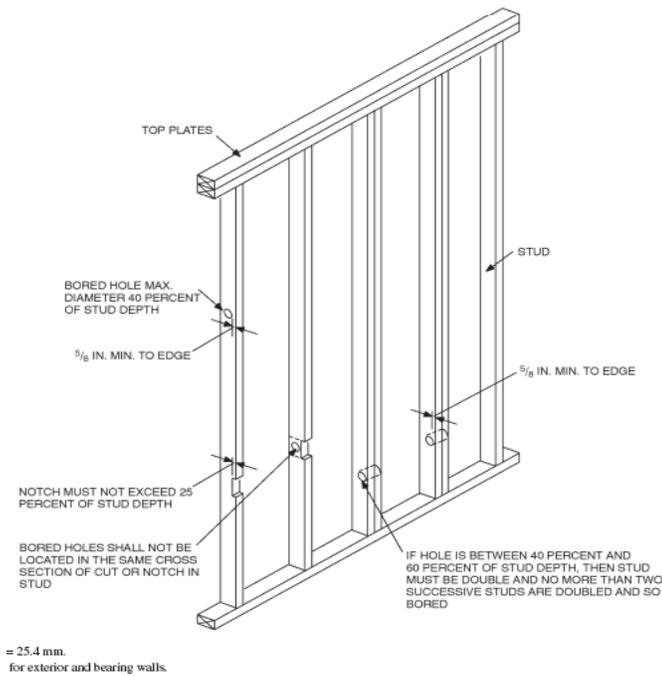

FIGURE R602.6(1)
R602.6 Drilling and notching - studs. Any stud in an exterior wall or bearing partition may be cut or notched to a depth not exceeding 25 percent of its width. Studs in nonbearing partitions may be notched to a depth not to exceed 40 percent of a single stud width. Any stud may be bored or drilled, provided that the diameter of the resulting hole is no greater than 40 percent of the stud width, the edge of the hole is no closer than 5/8 inch (15.9 mm) to the edge of the stud, and the hole is not located in the same section as a cut or notch. See Figures R602.6(1) and R602.6(2).